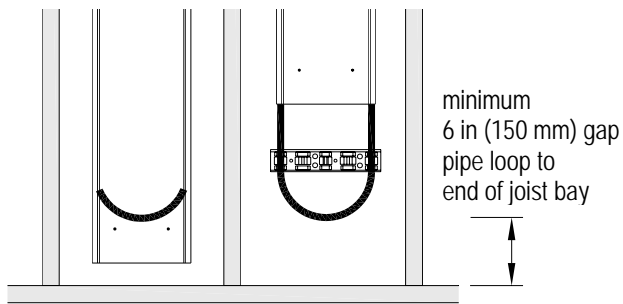

Fig. 5: End loop --preferred method (left) and alternate (right)
- 8.g. Loop the pipe at the end of the joist bay. See Fig. 5 for two different methods of securing the return loop.